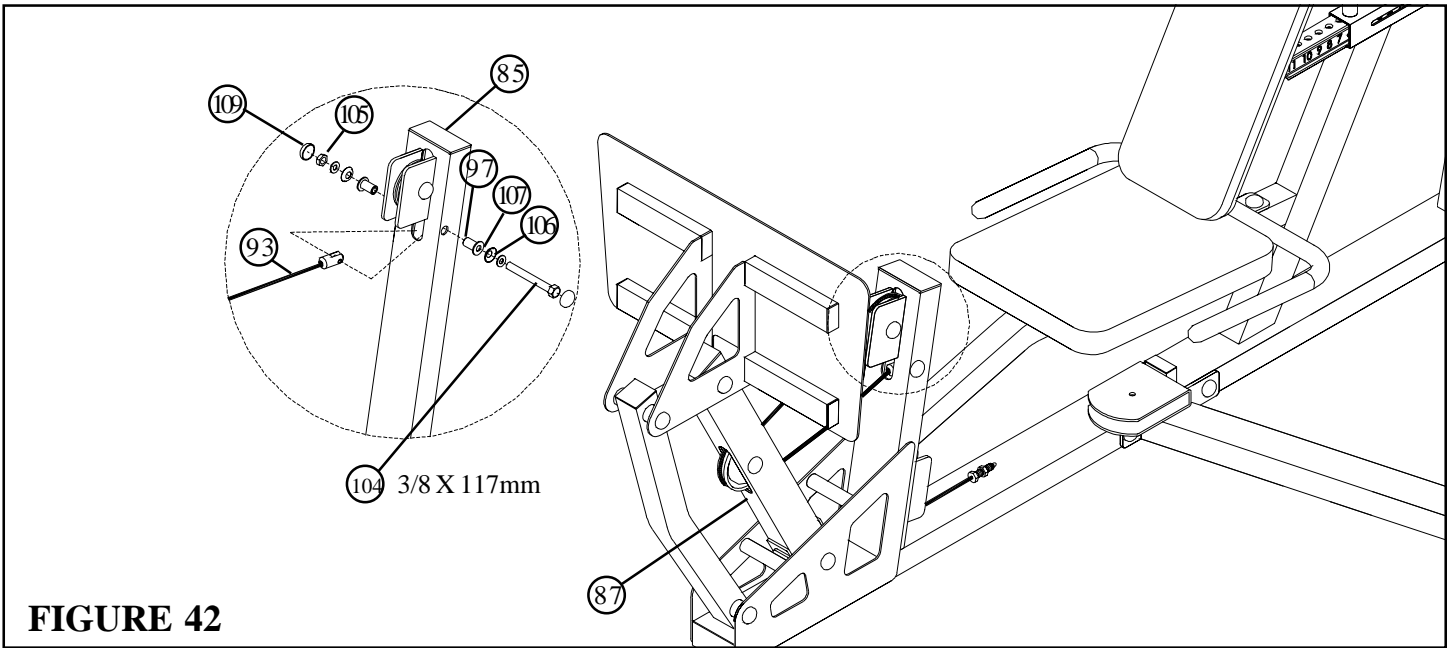

FIGURE 42
- Assemble the swivel end of the LEG PRESS CABLE (93) to the LEG PRESS FRAME (85) using two RH CAPS (109), one 3/8 X 117mm BOLT (104), two 3/8 X 1-1/2" FLANGE SPACERS (97), two 3/8" SAE WASHERS (106), two 3/8" RH WASHERS (107) and one 3/8" LOW HEIGHT LOCK NUT (105) as shown in FIGURE 42.